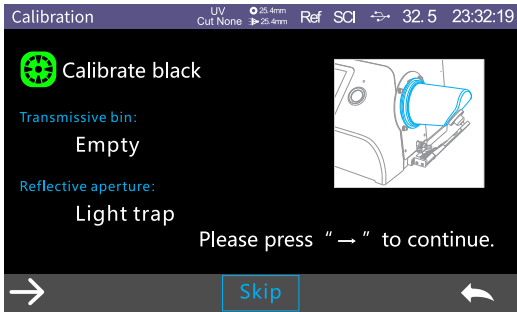

Figure 5 Reflective Black Calibration Interface
- 3、Click  to enter Reflective Black Calibration interface as shown in Figure 5.